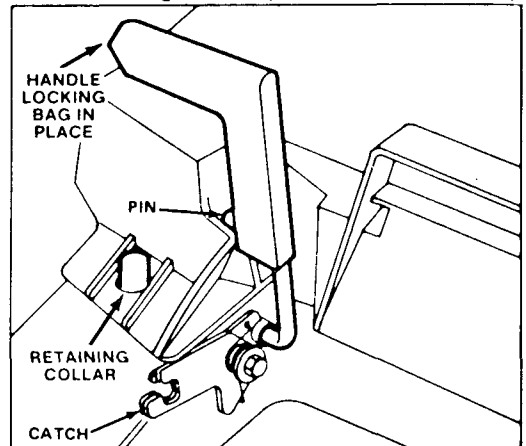

Figure 11
3. INSTALLING BAG — Slide hole in bag frame onto retaining collar on housing (Fig. 11) and set rear of bag frame onto lower handle.
4. Pull chute door handle forward until pin clears catch and move handle rearward until pin locks in bag notch (Fig. 11). Chute door in mower housing is now open. It may be necessary